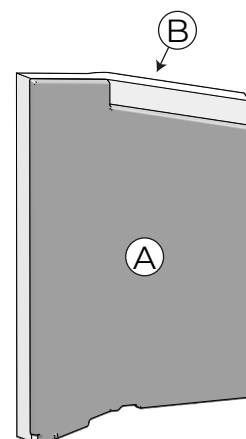

Fig. 7.8
| 3 | Insert the new side plates (A) on the side insulation panels (B) (Fig 7.8) |